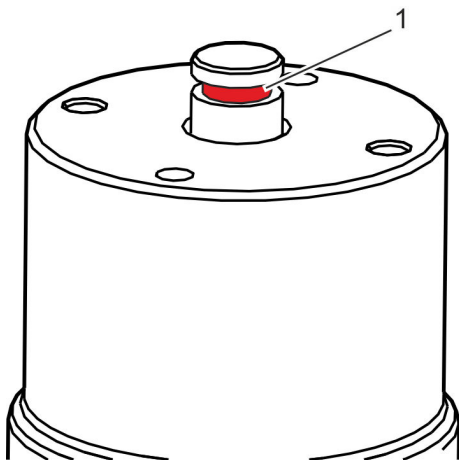

Fig. 33: Groove on the guide
1. ➤ Insert two flat-bladed screwdrivers on opposite sides into the groove (Fig. 33/1) of the guide.